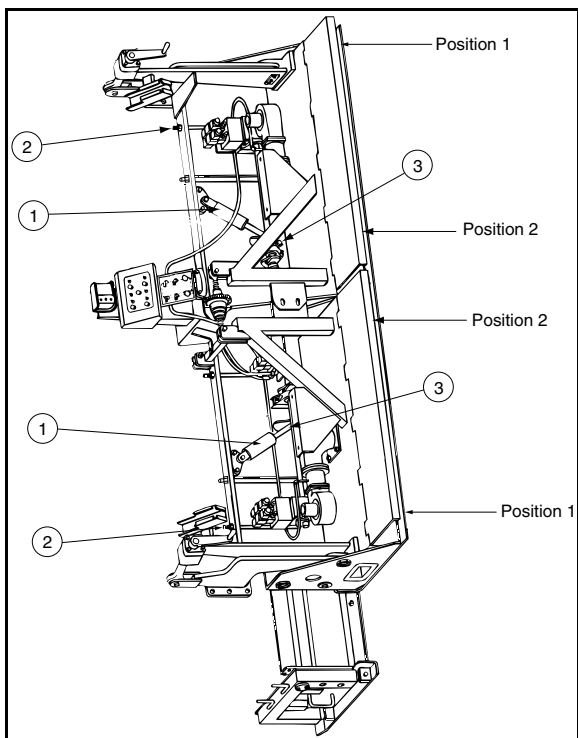

Figure 76.
- 2) Check slope cylinders [1] Figure 76, to see if rods have fully extended. If not, push slope toggle switch on the screed remote control until cylinders are fully extended.
- 5) Repeat Steps 3 and 4 using position [2], Figure 76, and adjust hydraulic cylinder rod end [3], Figure 76, so same setting (1/4") is obtained as made in position [1], (Step 4).